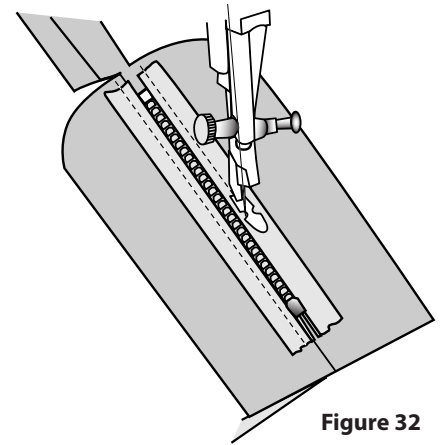

Figure 32
4. Flip the other fly piece over zipper. Turn over so zipper tape is visible and machine stitch zipper tape to extension only. (Figure 32)